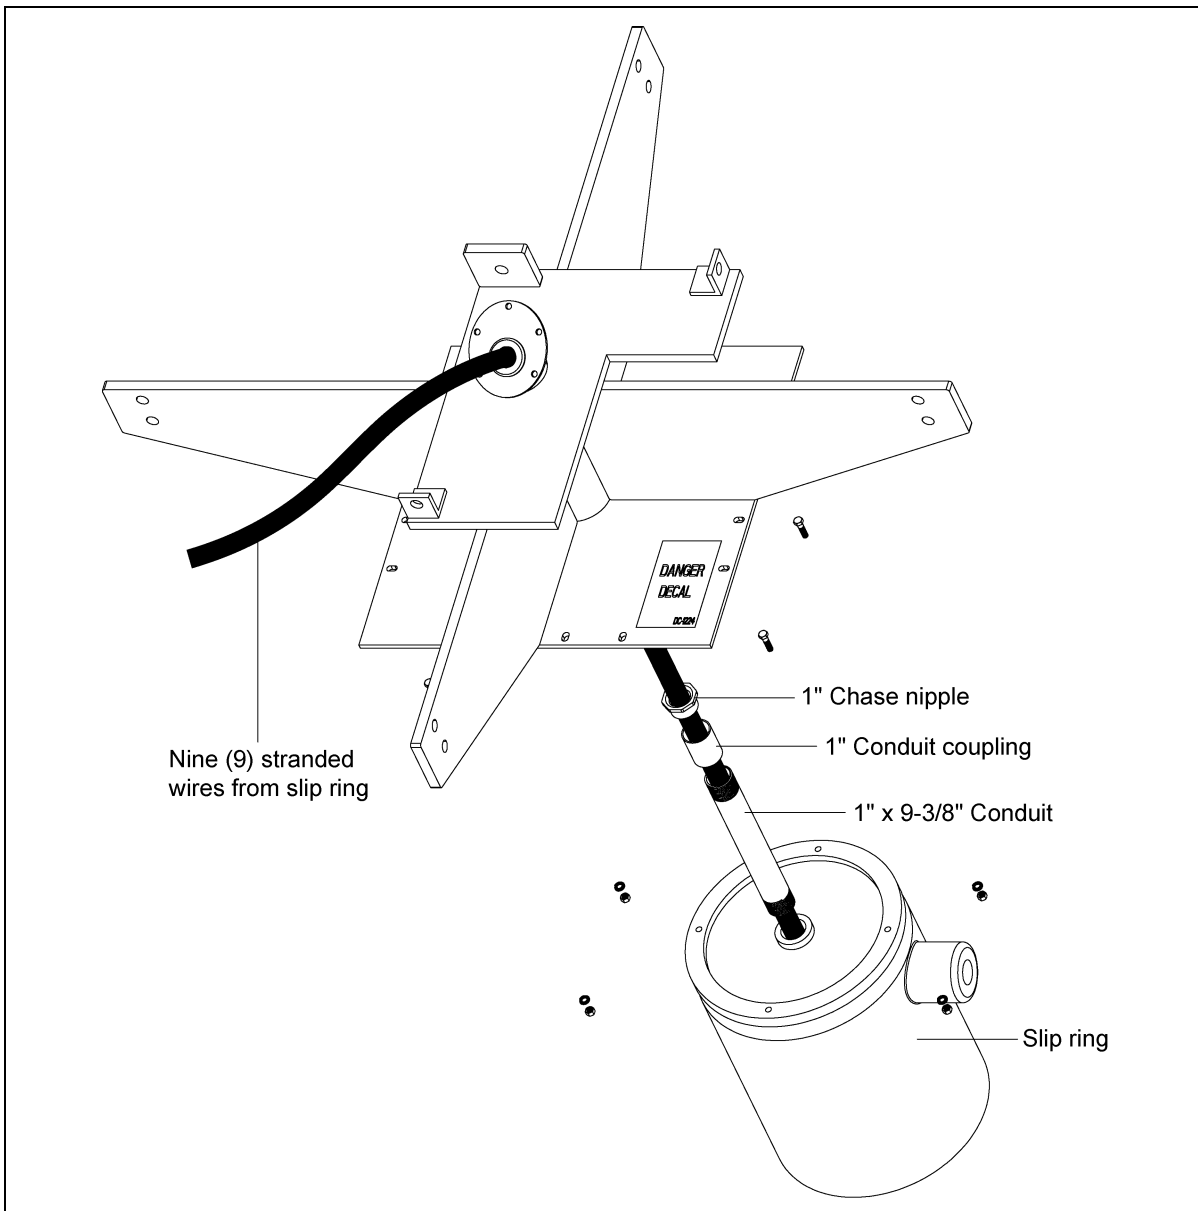

Figure 4C
3. Once the assembly is aligned properly, attach the cross brace to the sump with four (4) 1/2" x 1-3/4" hex bolts and nuts. Do not tighten these at this point.
8. Feed the nine (9) stranded wires from the slip ring through the conduit assembly and fasten it to the slip ring. *(See Figure 4C.)*